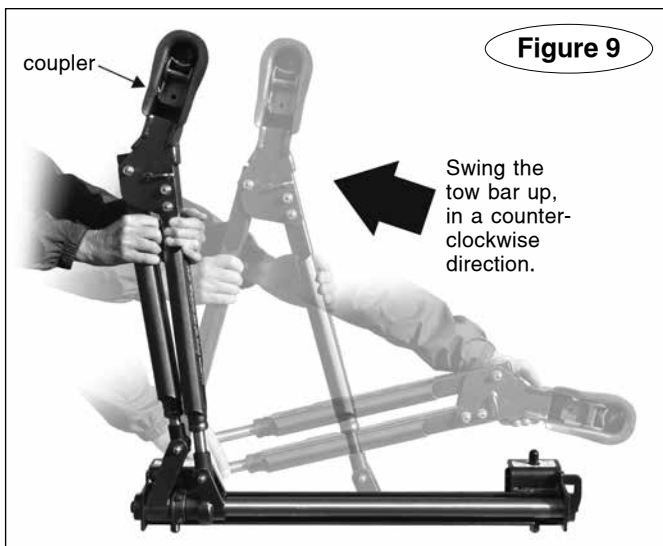
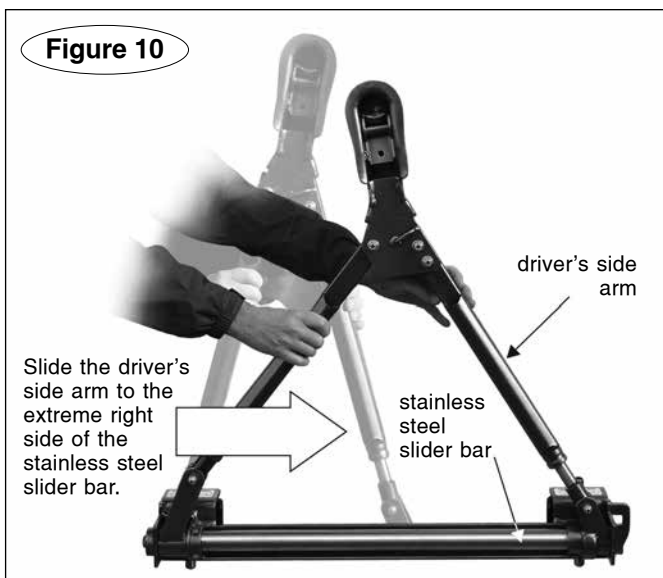

Figure 9
Figure 10
4. Swing the tow bar up, in a counter-clockwise direction (Figure 9), until the bar is vertical. Then slide the driver's side arm to the extreme right side of the stainless steel slider bar (Figure 10).